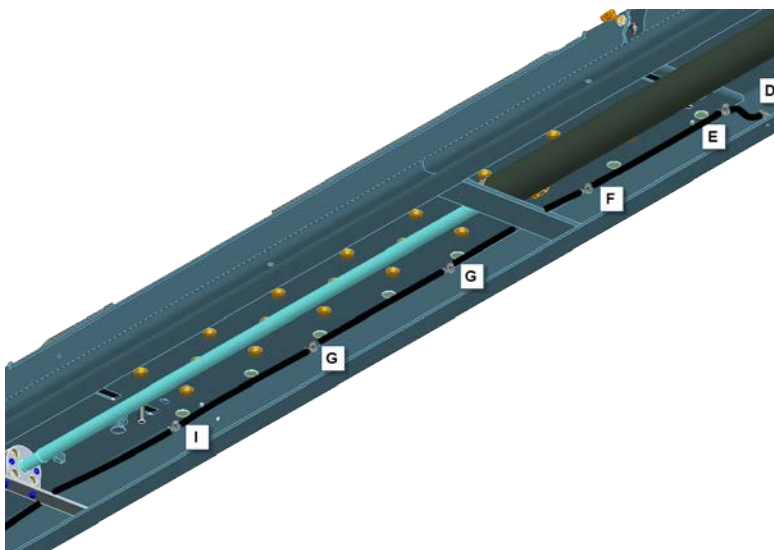

Figure 35
- Continue routing air line through ties: "F", "G", "H", "I" on rear alignment pan (**Fig.35**).